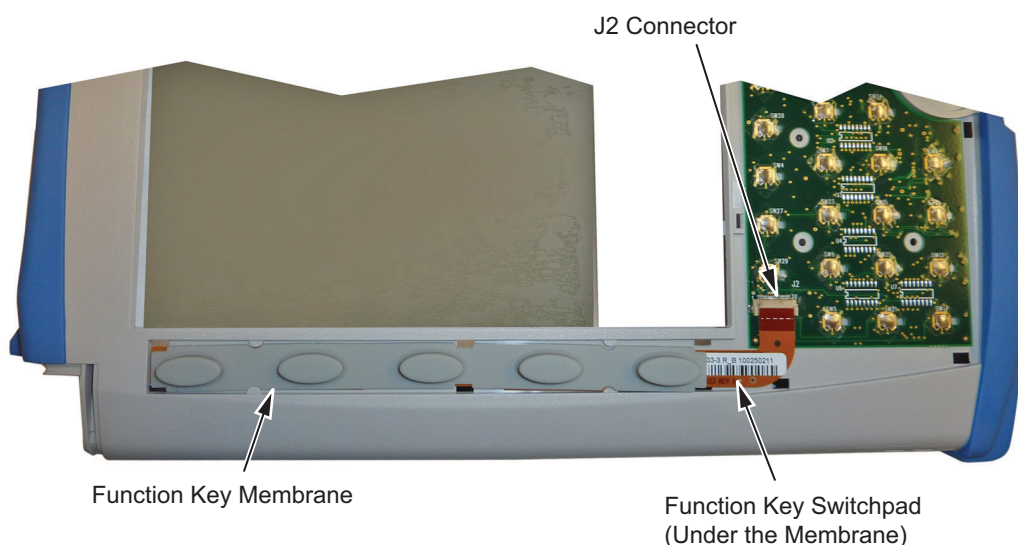

Figure 5-12. Function Key Membrane and switch pad
4. Remove the function key membrane by gently pulling the membrane up and away from the front panel (Figure 5-12).
5. Disconnect the function key flexible switch pad from J2 of the keypad PCB by carefully lifting the locking tab on connector J2 to release the flexible switch pad (Figure 5-12).